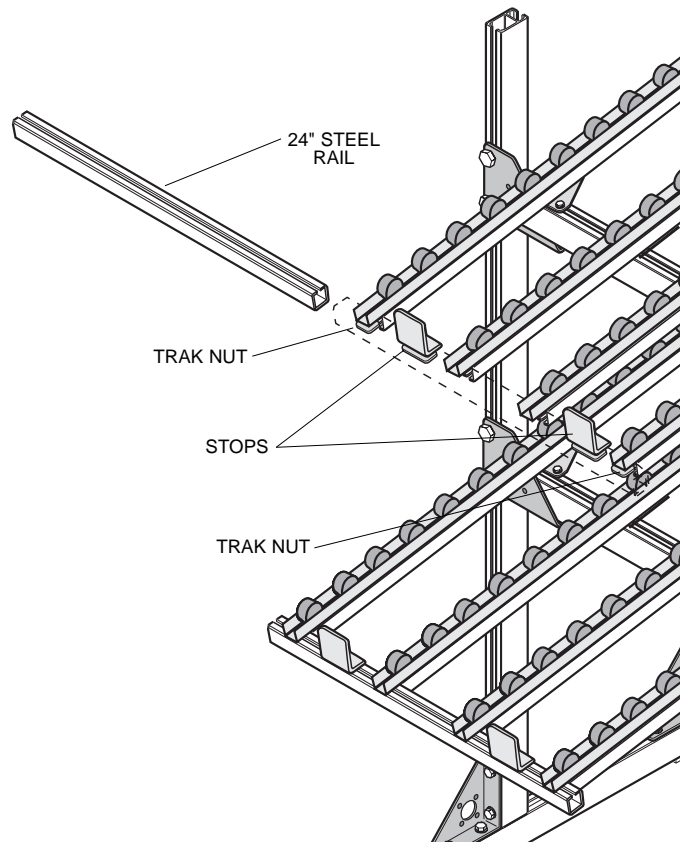

Figure 12.
14. Install trak nuts into end slots (overhanging portion) of two outer conveyor strips on each level. Trak nuts should be on lower side with screw head on top (Fig. 12).
15. Install 24" steel rails on lower ends of conveyors by sliding rail onto trak nut, then inserting clamp bar of one stop into rail. Continue sliding rail across front of conveyors until second stop, located between third and fourth conveyor strip, can be inserted. Complete installation by sliding rail onto trak nut on fourth conveyor. Center rail on conveyors and tighten trak nuts. Position stops midway between conveyor strips and securely tighten screws. Repeat above to install remaining 24" steel rail on other conveyor level (FIG. 12).